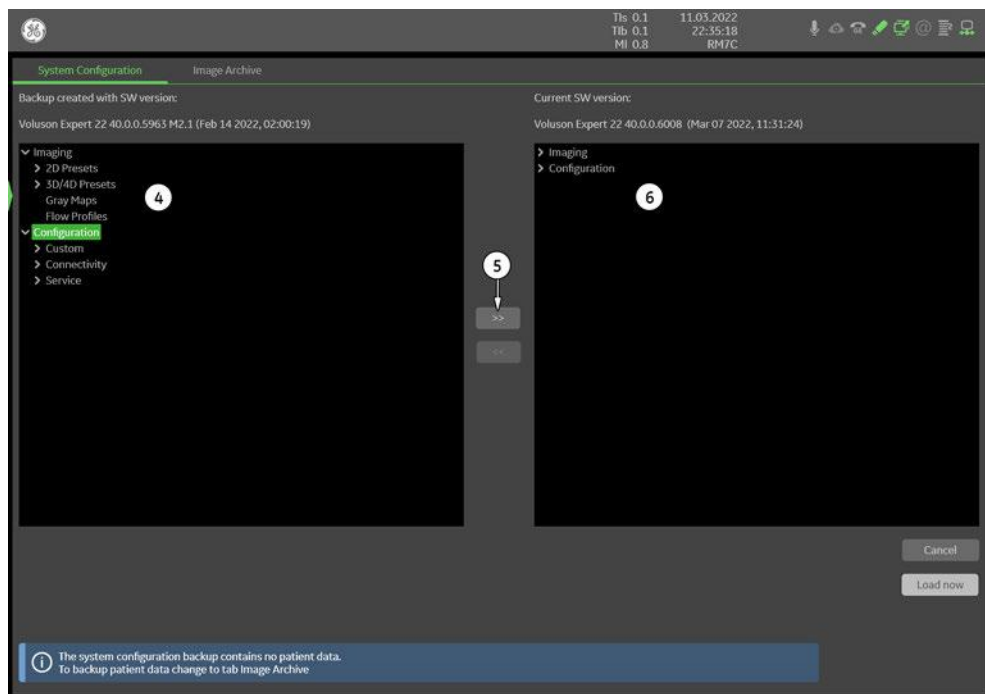

Figure 4-13: select items to be loaded
- Settings and data that are allowed for restore are listed in the left "Backup Data" field (4). For detailed description of available items refer to Section 4.4.1 "Save System Configuration Backup" on page 4-11.
8. Select all the items to be loaded. Therefore, choose items and click the [**>>**] button (5) to copy items into the right "Load Data" field (6).
- For example: All **Imaging** settings and all **Configuration** settings will be loaded, see Figure 4-13 above.
- Click the [>] sign next to an item (7) to open the content tree.
- Return selected item (8) from the "Load Data" field to "Backup Data" field select the [<] button (9).